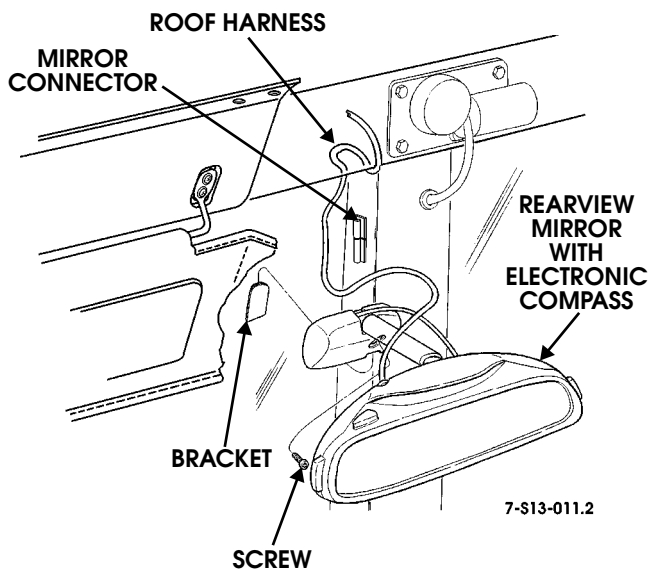

Figure 13-78: Rearview Mirror with Electronic Compass
3. Remove one screw and rearview mirror from the windshield bracket (Figure 13-78).